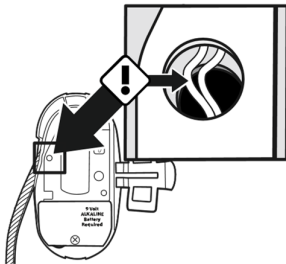

Fig. 10
6. Attach the Decibel Cable Lock to the surface mount bracket. Screw the two #8 2 3/4" screws provided through the metal plate inside the lock and into the two tube-like holes on the bracket. Be careful to avoid the wires while fastening (Fig. 10). Ensure screws are securely in place, and do not over-tighten.